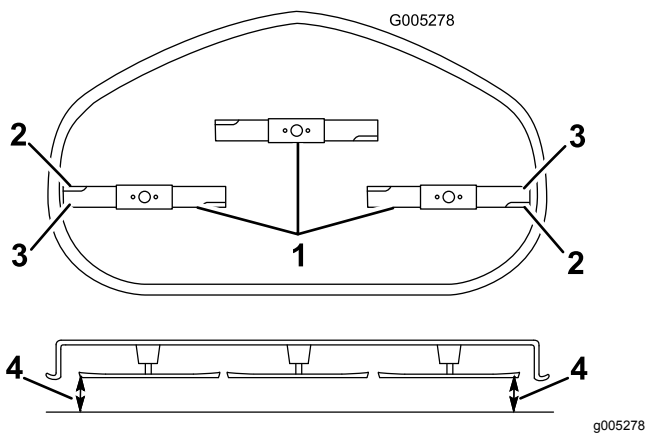

Figure 55
4. Carefully rotate the blades so that they are all side to side (Figure 55).
5. Measure between the outside cutting edges and the flat surface (Figure 55).